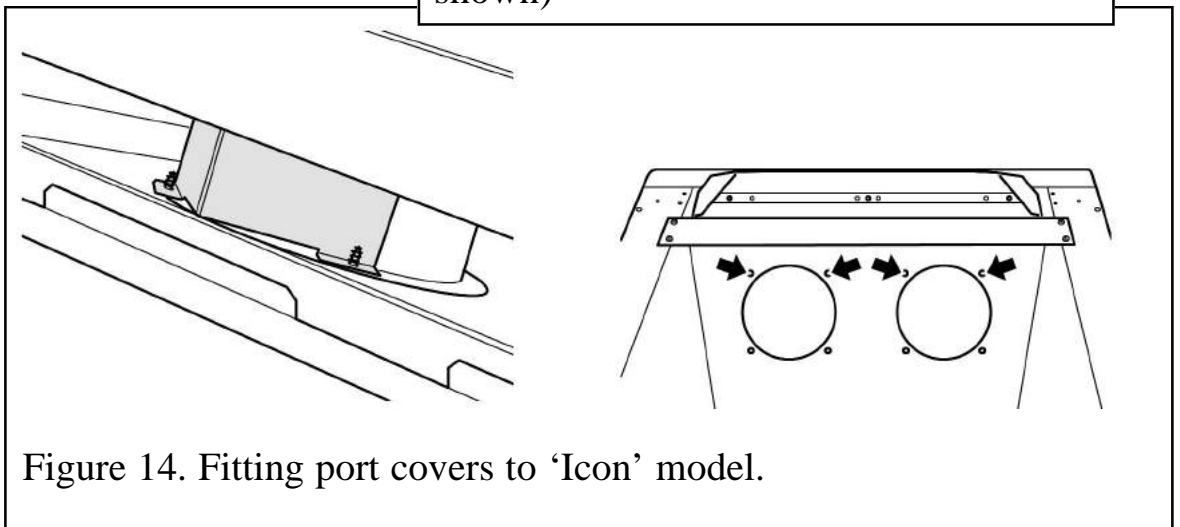

Figure 14. Fitting port covers to ‘Icon’ model.
7. The ‘Icon’ fascia is supplied with two port covers. To fit the port covers unscrew the four cross over port screws shown in figure 14. Put the port covers in place and refit the screws previously removed. *Ensure that the screws are tight and that the cross over ports have*
*returned to their original position. Also check that there are no gaps between the cross over ports and the surfaces they are screwed to* (See figure 14).